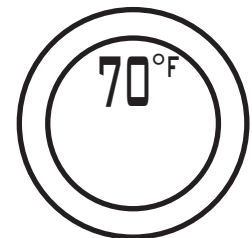

Figure 69 - Reset Mode
INITIAL START-UP RESET MODE - See Figure 69
4. After reset, the transmitter is operating in manual mode. See Figure 69.